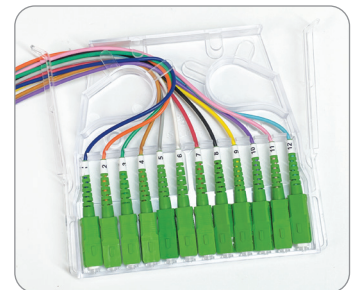

Figure 23
2. Using local engineering practices, determine the appropriate distribution fiber to be connected. Remove the corresponding fiber storage cartridge from the swing down tray by pushing in and pulling up on the cartridge arms (Figure 23).